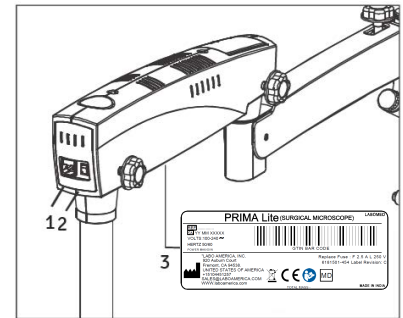

Fig. 42
1. Connect the power cable to the AC inlet socket (1) provided on the back of the swivel arm as shown in the fig.42. Switch on the power from on/off switch (2).
CAUTION: Power supply is designed with universal input 100V - 240V AC, 50/60HZ. To plug in follow instruction on electrical label provided at bottom of the arm as shown (3) here in Fig.42.
It is located on the back of the swivel arm Refer fig 42. At 'I' position, microscope is on and cooling fan starts running.